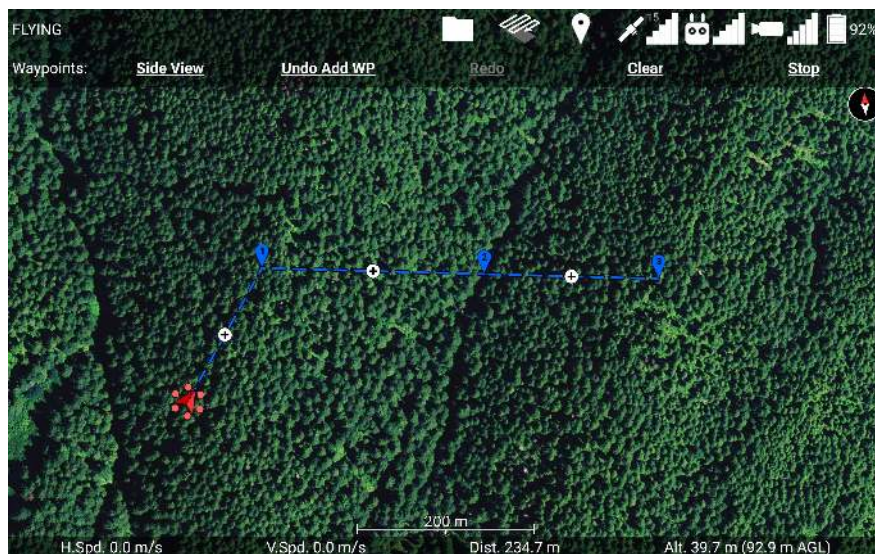

Figure 90: The path through waypoint 2 doesn't change heading, which allows you to move waypoint 2 left and right in the side view.
shown in Figure 90. The app doesn't require the waypoints to be perfectly aligned in order to move them left and right in the side view, so you'll be able to use this feature even if you drag the waypoints into a line by hand in the top-down map view. Moving waypoint 2 left and right in the side view will move it closer to the previous waypoint (1) or closer to the following waypoint (3), but it will stay along the line that connects the two.